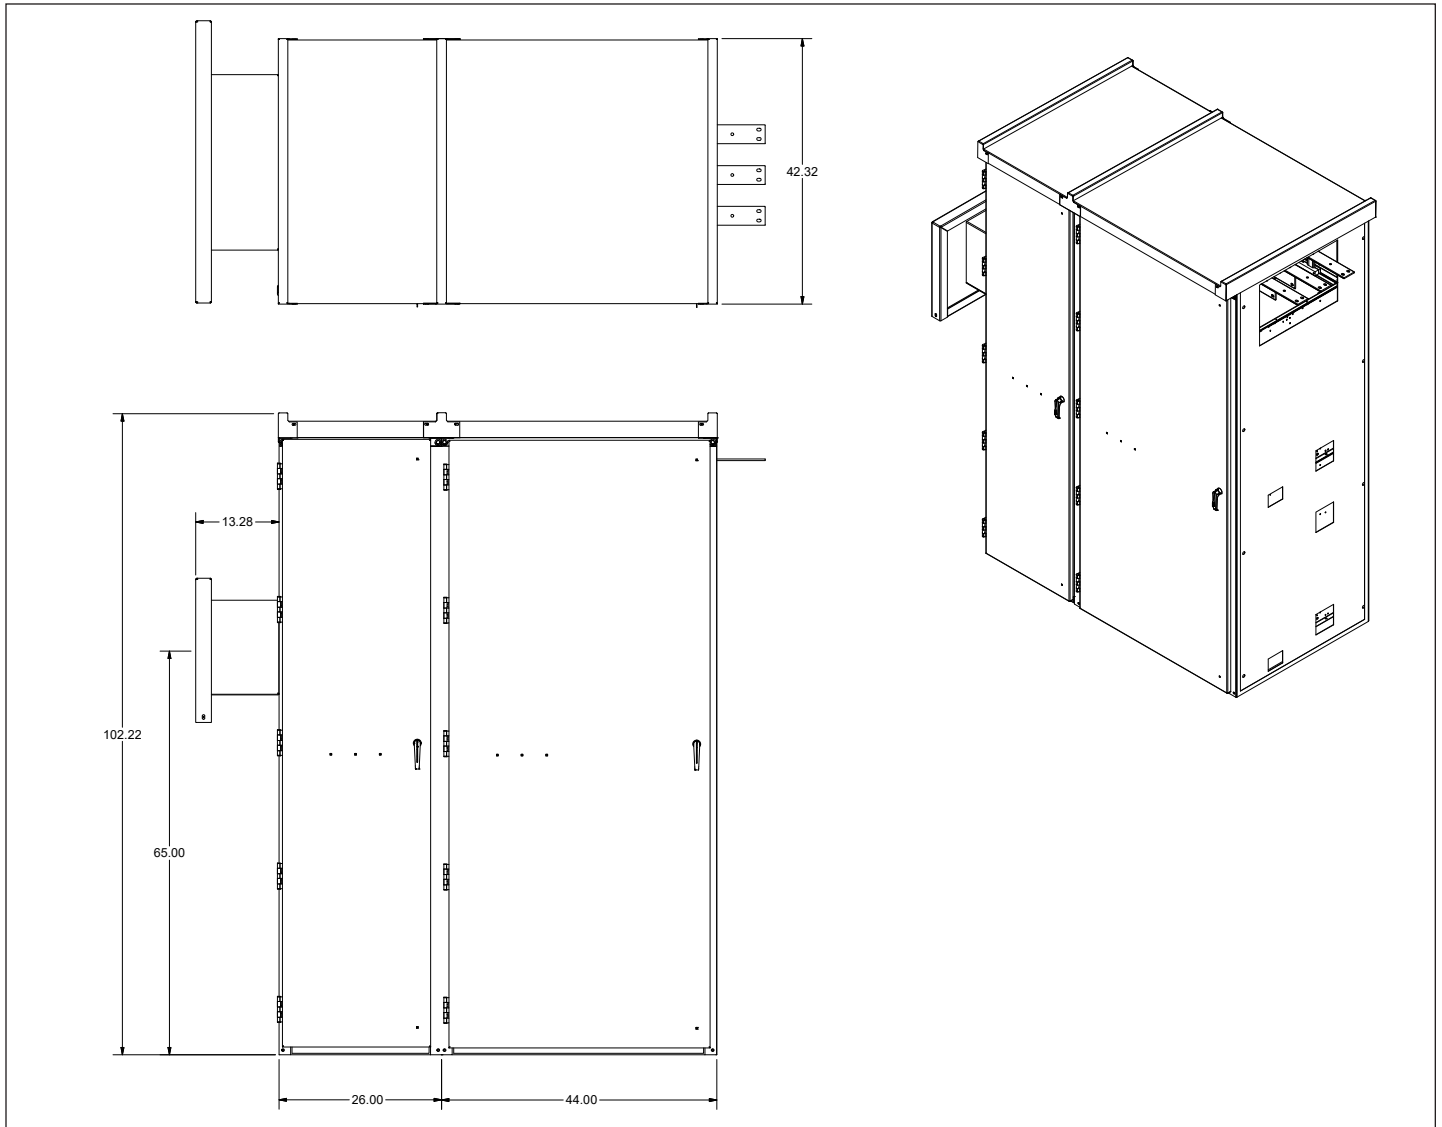

Figure 13. Incoming line with throat connection + main unit (26-inch width incoming unit + 44-inch width gear).
1. Remove the sealing ring (marked in **Figure 13**) from the throat assembly of incoming line.